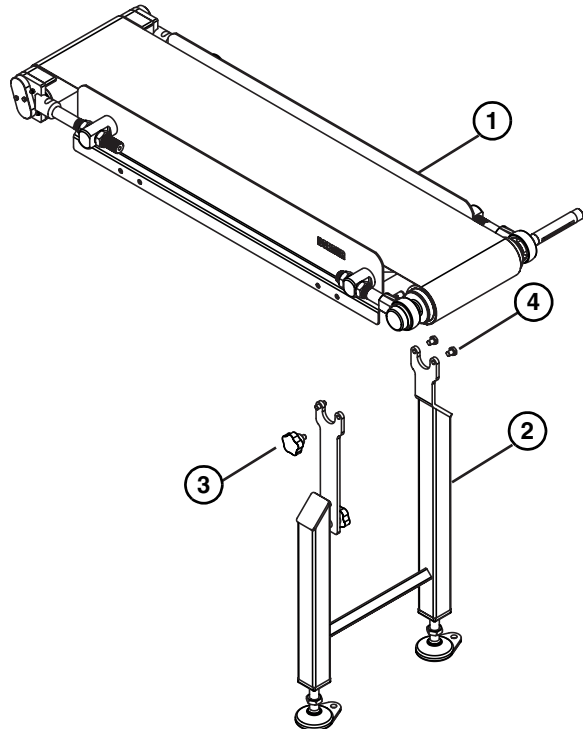

Figure 33
Typical Stand Components (Figure 33)
- Attach the quick-release arm to the stand with the knob. (Figure 33, item 3).